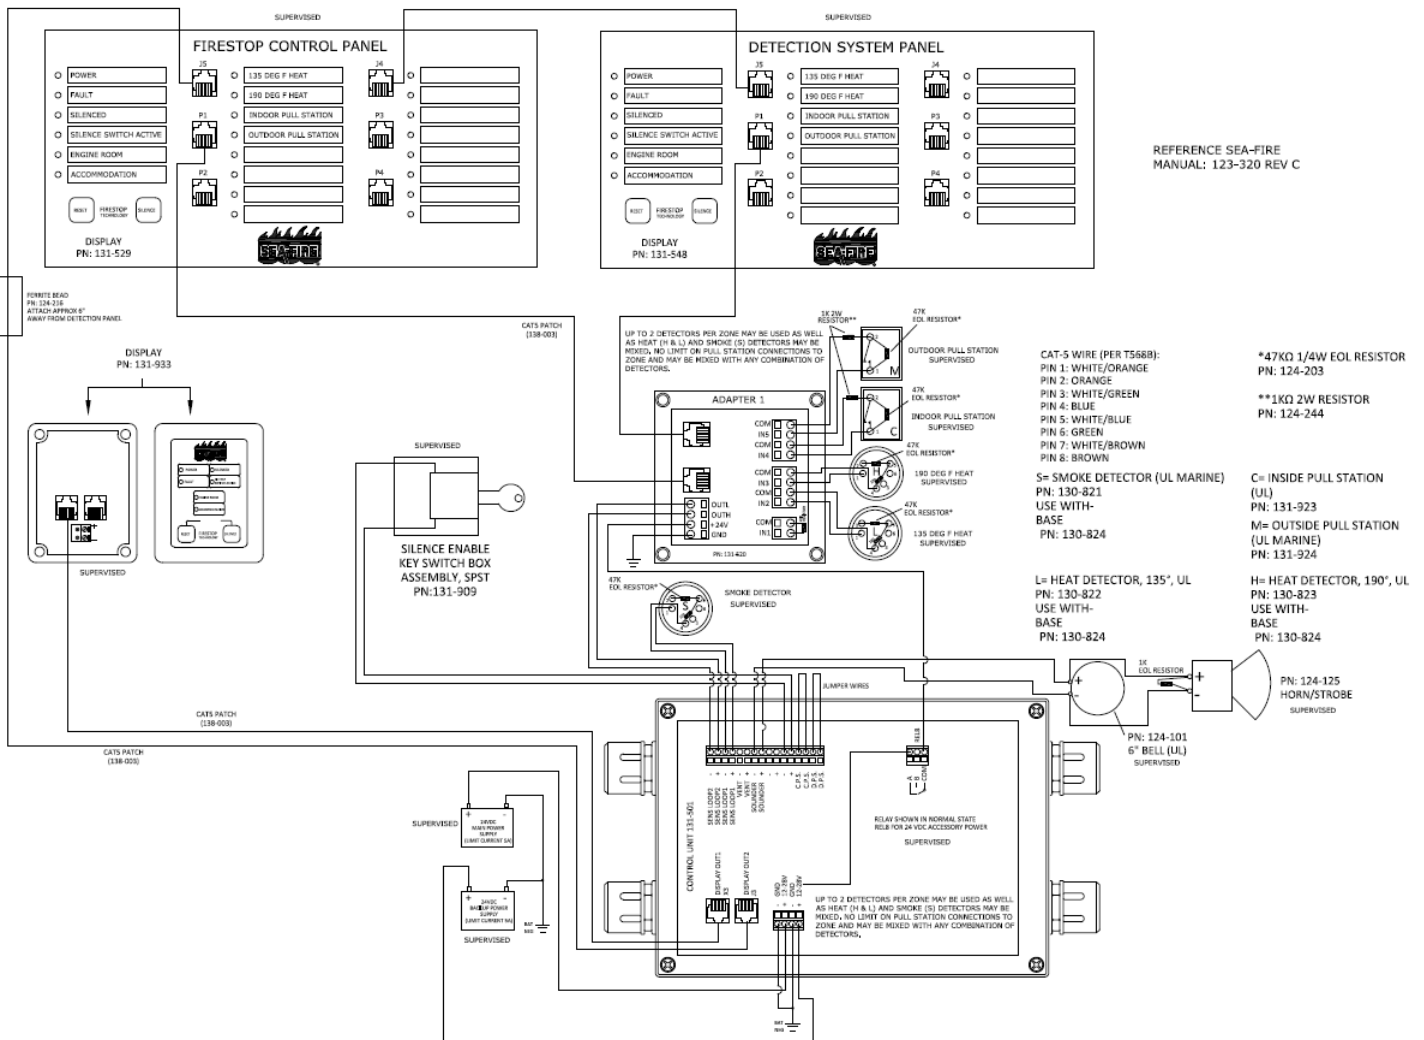

Fig. 4
As a minimum, use No.16 AWG (SAE J3788 & J1128) copper wire conforming to the ABYC standards for marine use on all wiring applications. Fig. 4 shows a typical wiring schematic.
A 47k resistor should be fitted to the last detector or Pull Station on each zone and a 1K Ohm, 2Watt resistor must be connected in series with each Pull Station and shown in Fig. 4. The Pull Station's maximum current shall be less than 0.15 Amps RMS and the voltage shall be +24VDC +/- 1 VDC at a frequency of 0Hz (DC).
The Adapter Panel requires an input voltage of 24 VDC \pm 4 V. If multiple panels are being used then each unit should be powered. The positive power should be run from the COM terminal of relay 8 of the Control Panel (131-501). See Fig. 4.
The Adapter Panel should be connected to the required zone of the 131-501 Control Unit. Observe correct polarity. See Fig. 4.
An unlimited number of Adapter Panels can be daisy chained together. See Figure 4 for correct wiring.
The left hand columns of the LEDs are the same as the 131-933 Display Panel and work in parallel with all Display Panels fitted to the system. The RJ45 sockets marked J5 and J4 (these are wired in parallel) should be used to control the left hand column of LED's and can be connected to one of the RJ45 sockets on the 131-501 Control Unit or the 131-933 Display Panel. See Figure 4. Any combination of up to 4 panels can be fitted to each system (131-933, 131-529 or 131-548).